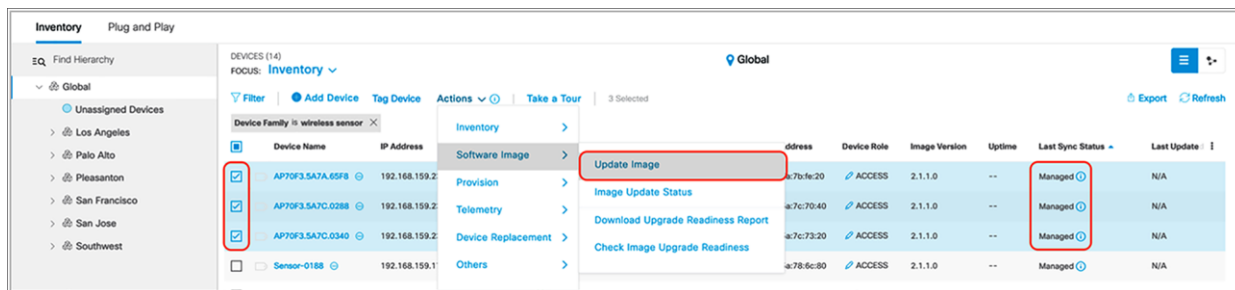

Figure 59.
- After you select all the sensors, click Action and select Image Upgrade. Make sure all selected sensors are in Managed status (Figure 59).